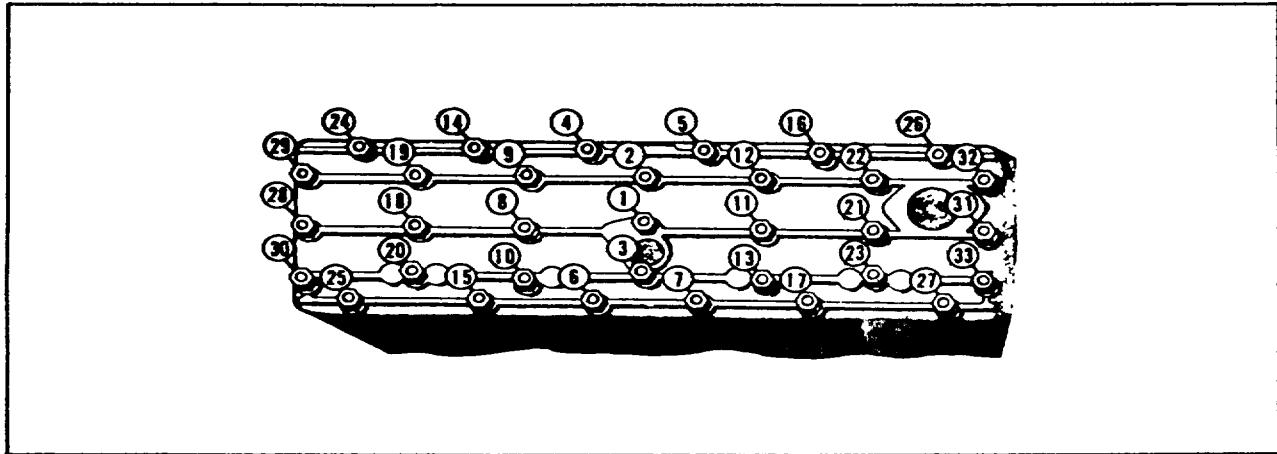

Figure 6-7. Six Cylinder Head Screw Tightening Sequence
2. Wipe mating surface of cylinder head (52) and position on cylinder block.
3. Loosely screw into position the six threaded high head screws (53) and washers (55) at oil dip stick bracket, coil bracket and lifting eye positions.
4. Loosely assemble high head screw (56) and washer (57) in cylinder head at position 18 of Cylinder Head Tightening Sequence, figure 6-7. This screw provides tapped boss for distributor holdown screw.
5. Loosely install remaining cylinder head capscrews (54) and washers (55) in cylinder head.
7. Tighten cylinder head screws, following sequence shown in figure 6-7. With an accurate torque wrench, torque each screw to 35 to 40 foot-pounds.